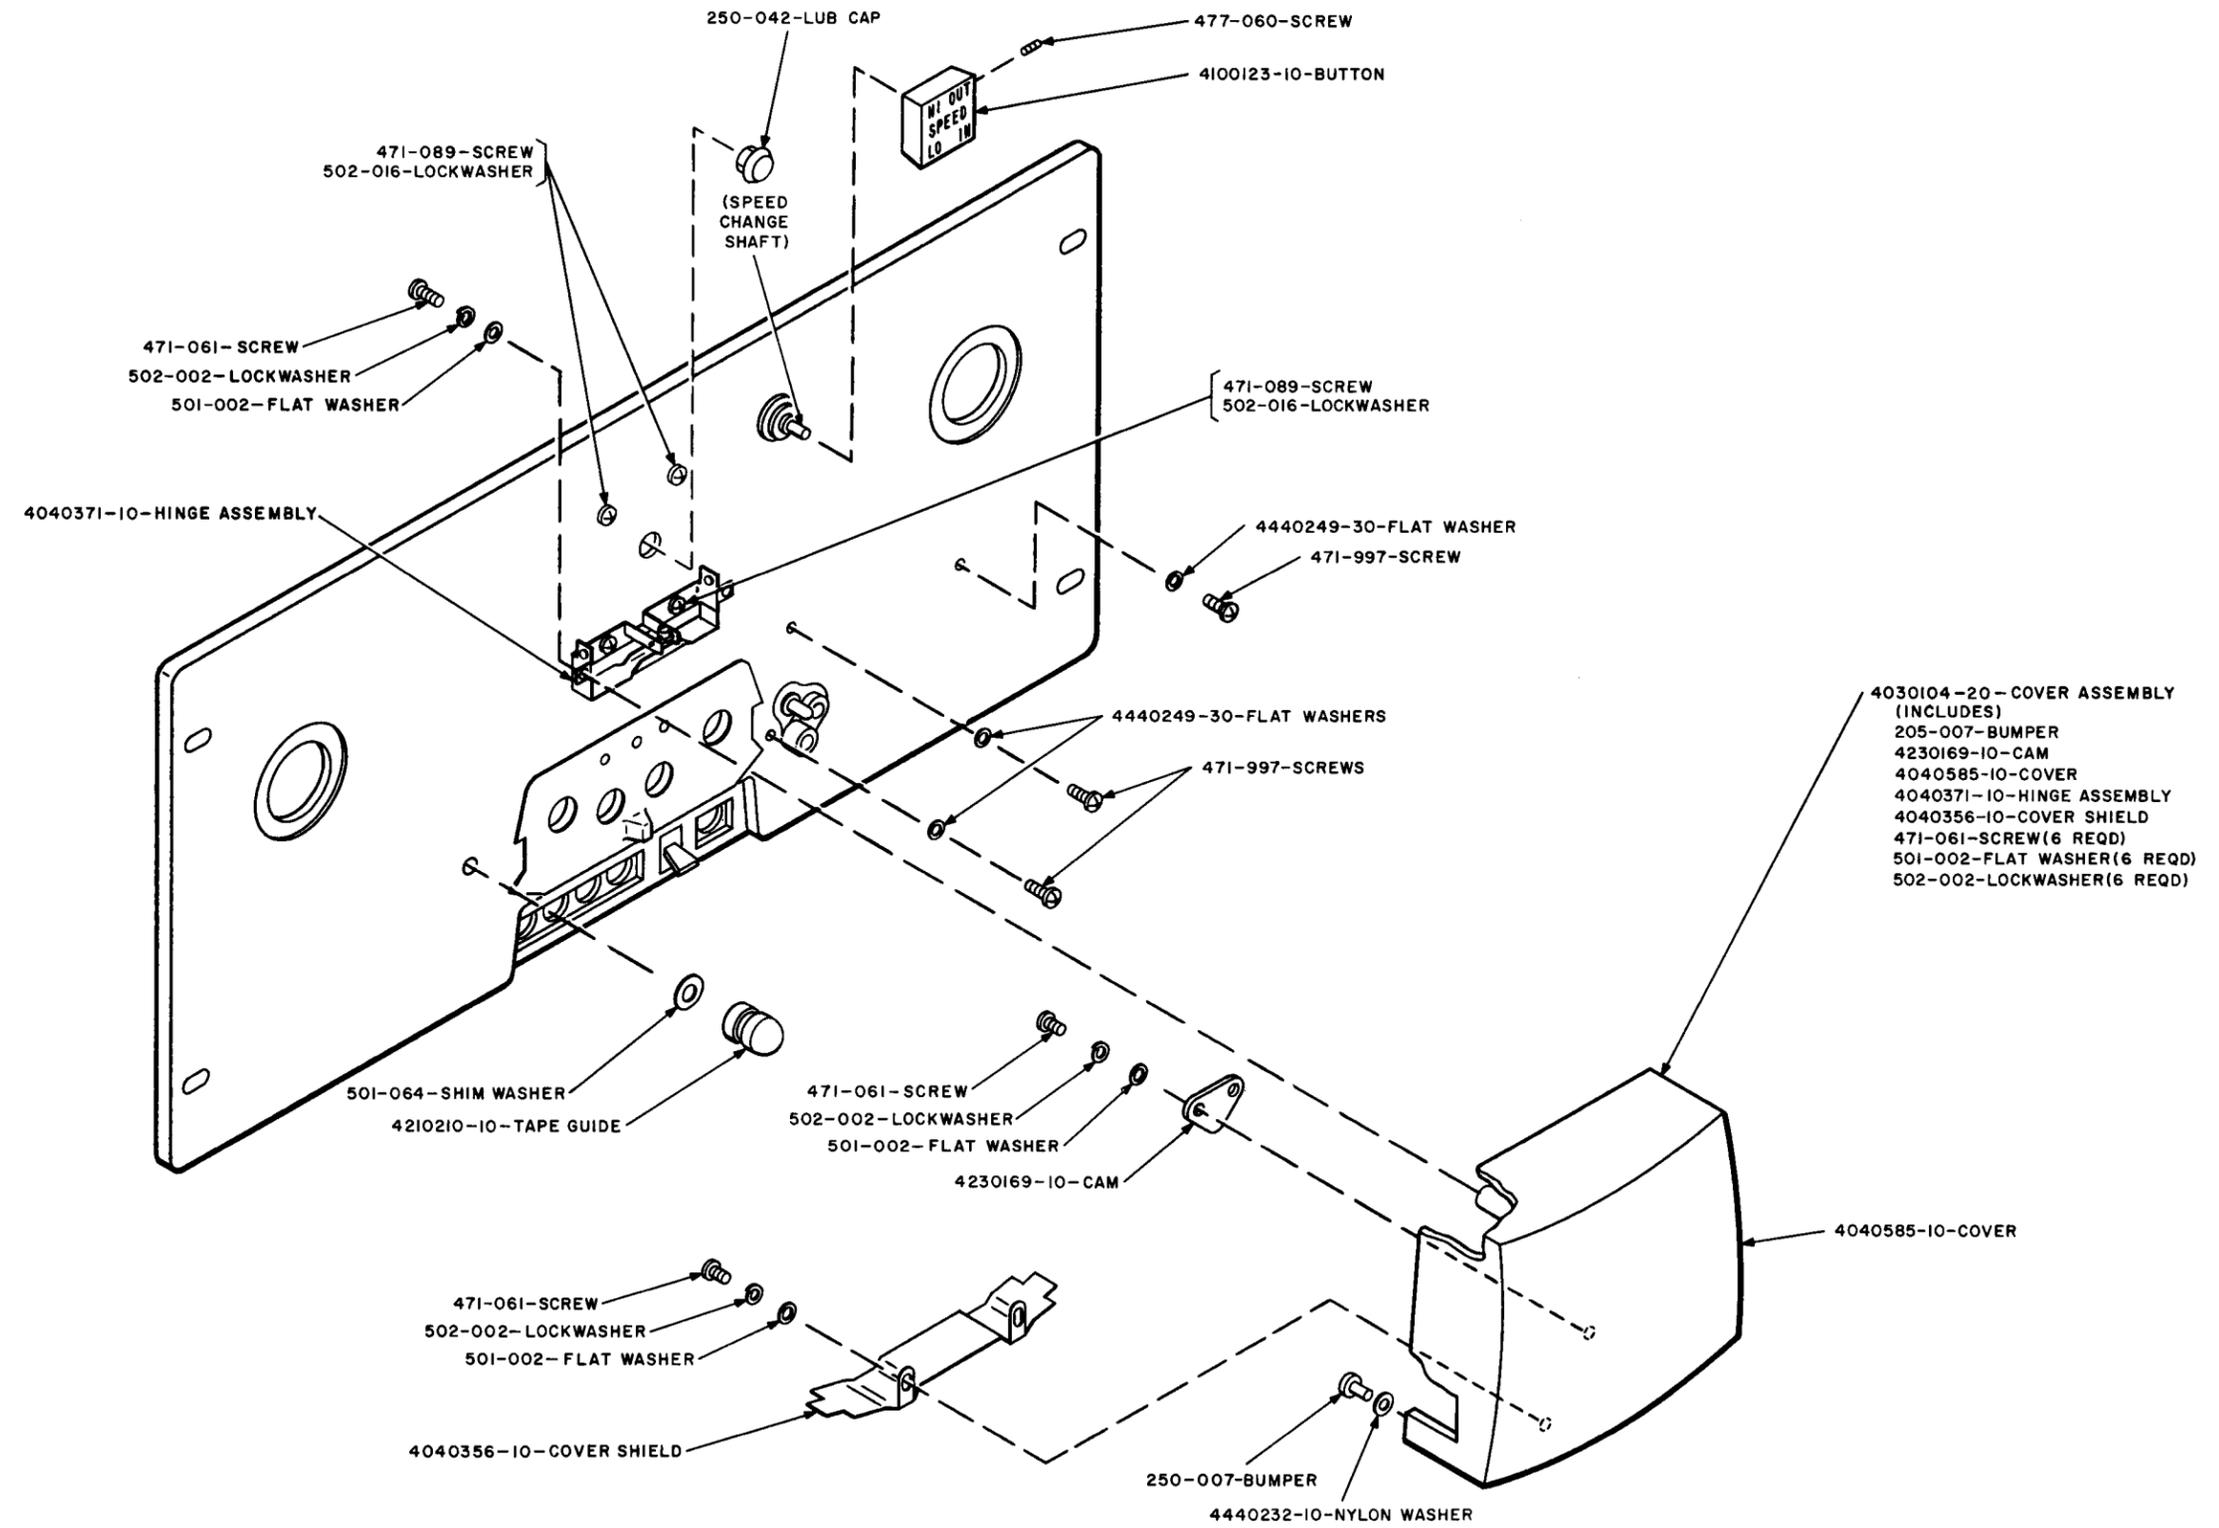
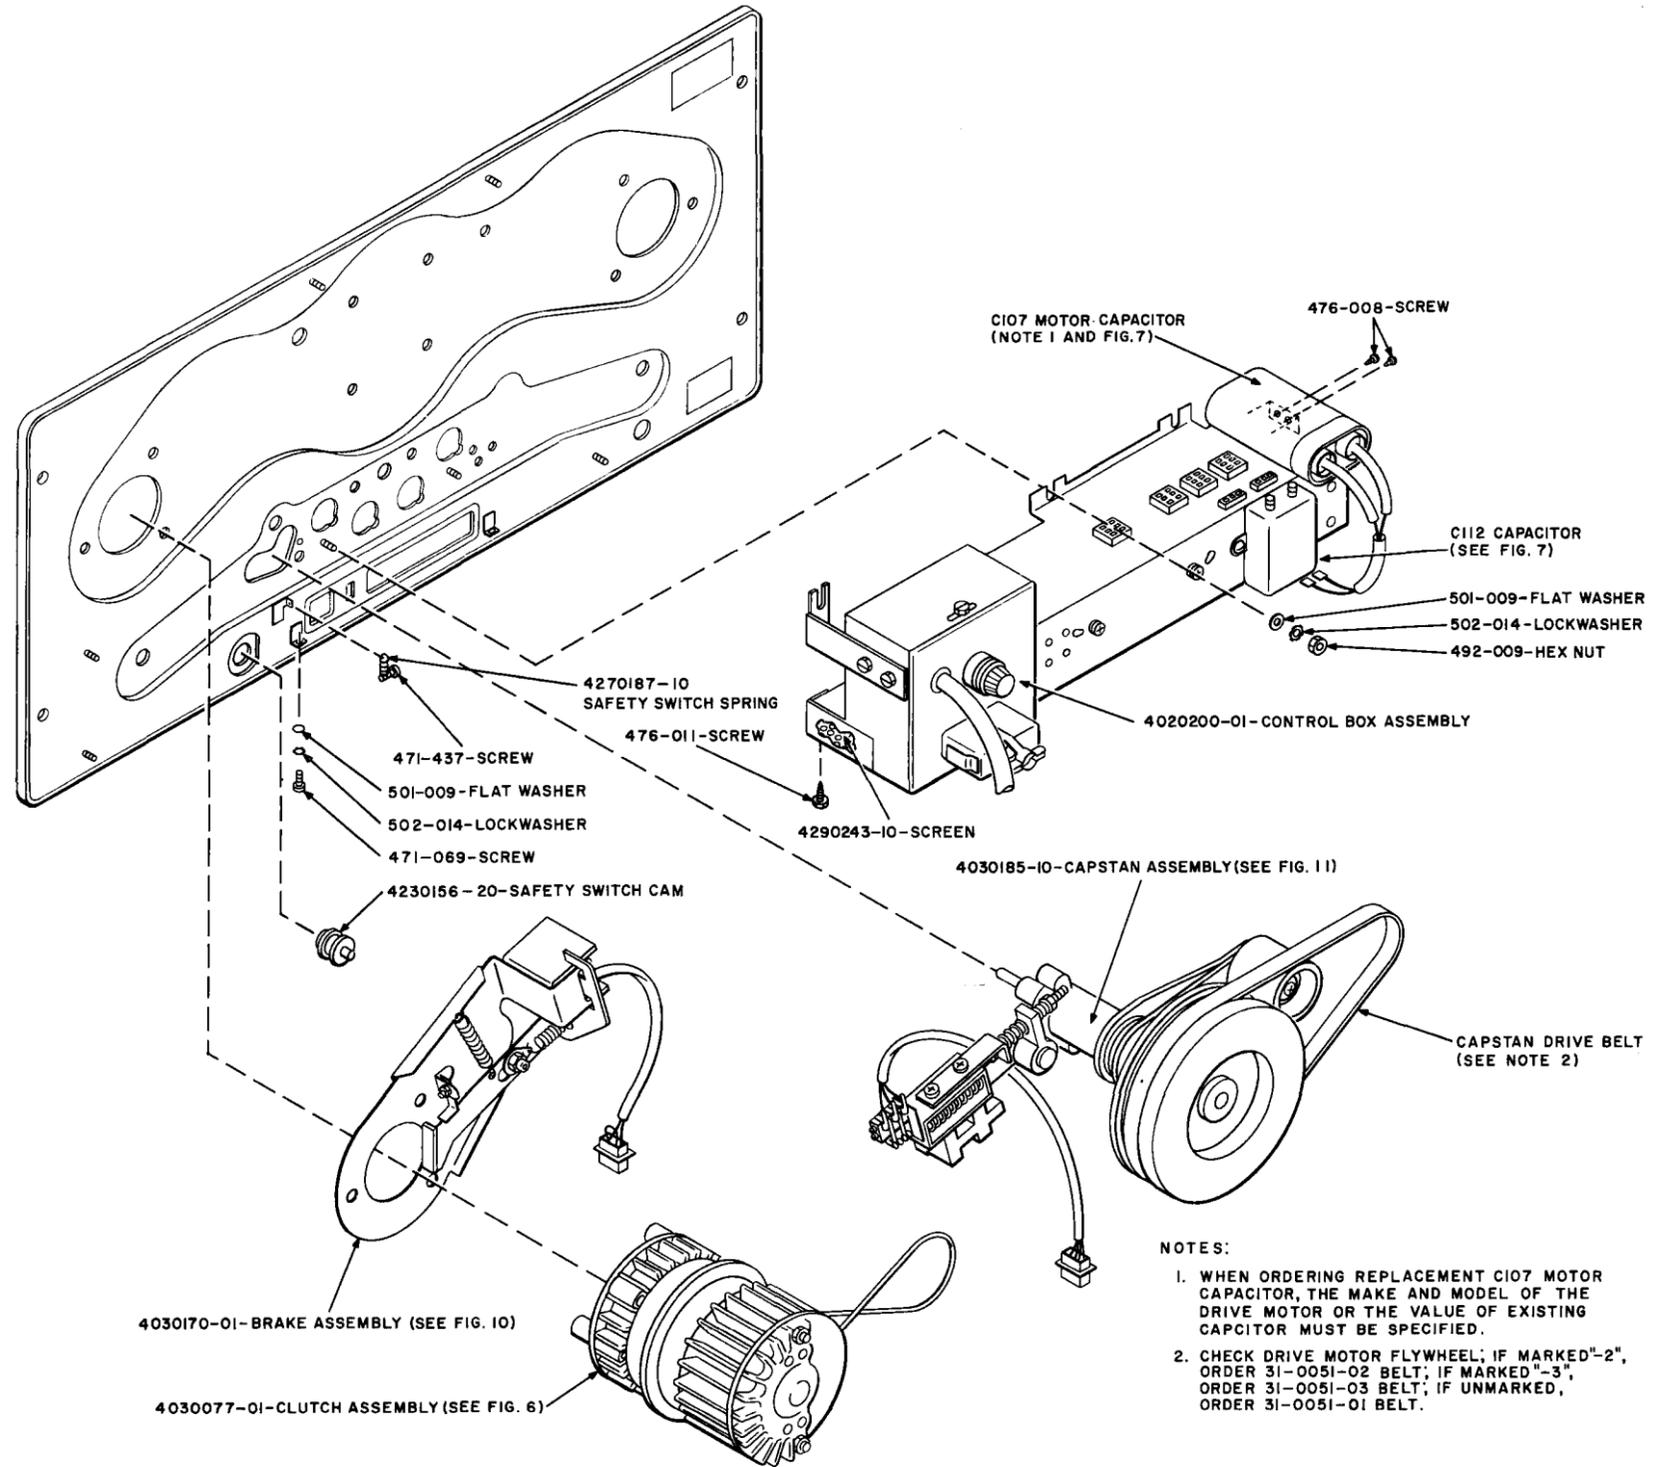

Fig. 3 — Record-Reproduce Mechanism—Removal of Cover Assembly and Miscellaneous Parts
Fig. 5 — Record-Reproduce Mechanism—Removal of Capstan Assembly, Control Box Assembly, and Miscellaneous Parts
- (2) Disconnect clutch cable connector and brake cable connector from their respective receptacles on control box assembly (Fig. 5).
- (3) Remove capstan drive belt (Fig. 5) and clutch drive belt (Fig. 6) from drive motor flywheel.
- (4) Use the B screwdriver to remove three screws and three flat washers (Fig. 5 and 9) securing both clutch assembly and brake assembly. Remove clutch assembly and brake assembly from tape transport. Place brake assembly aside until needed for reassembly.
- (5) Remount clutch assembly and brake assembly removed in (4) in reverse order of removal.
- (6) Check supply or take-up clutch tension requirements as described in Section 034-355-701 and adjust if necessary.
- (1) Disconnect all connectors from the control box assembly (Fig. 5).
- (2) Use the 5/16-inch open double-end wrench and a B screwdriver to remove all screws, hex nuts, flat washers, and lockwashers holding the control box in place. Do not remove leads to C107 and C112 capacitors.
- (3) Remove capstan drive belt.
- (4) Carefully holding capstan assembly, use the B screwdriver to remove three screws and flat washers (Fig. 3) holding capstan assembly in place. Remove capstan assembly from tape transport.
- (5) Remount capstan assembly in reverse order of removal.
- (6) Adjust capstan assembly in accordance with requirements described in Section 034-355-701.